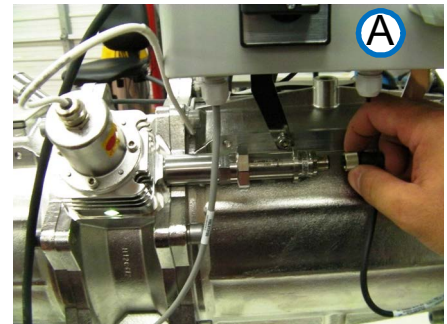

Figure 10-44: Removing connector A (Generic View)
- Step 3.** Carefully pull the sensor out of the housing (**Figure 10-44**). If a pinhole (D) is present it slides out. The large nut comes off together with the sensor.
- Step 13.** Unpack the new sensor (**Figure 10-47**) and the sensor pinhole (**D** in **Figure 10-44**, if supplied).